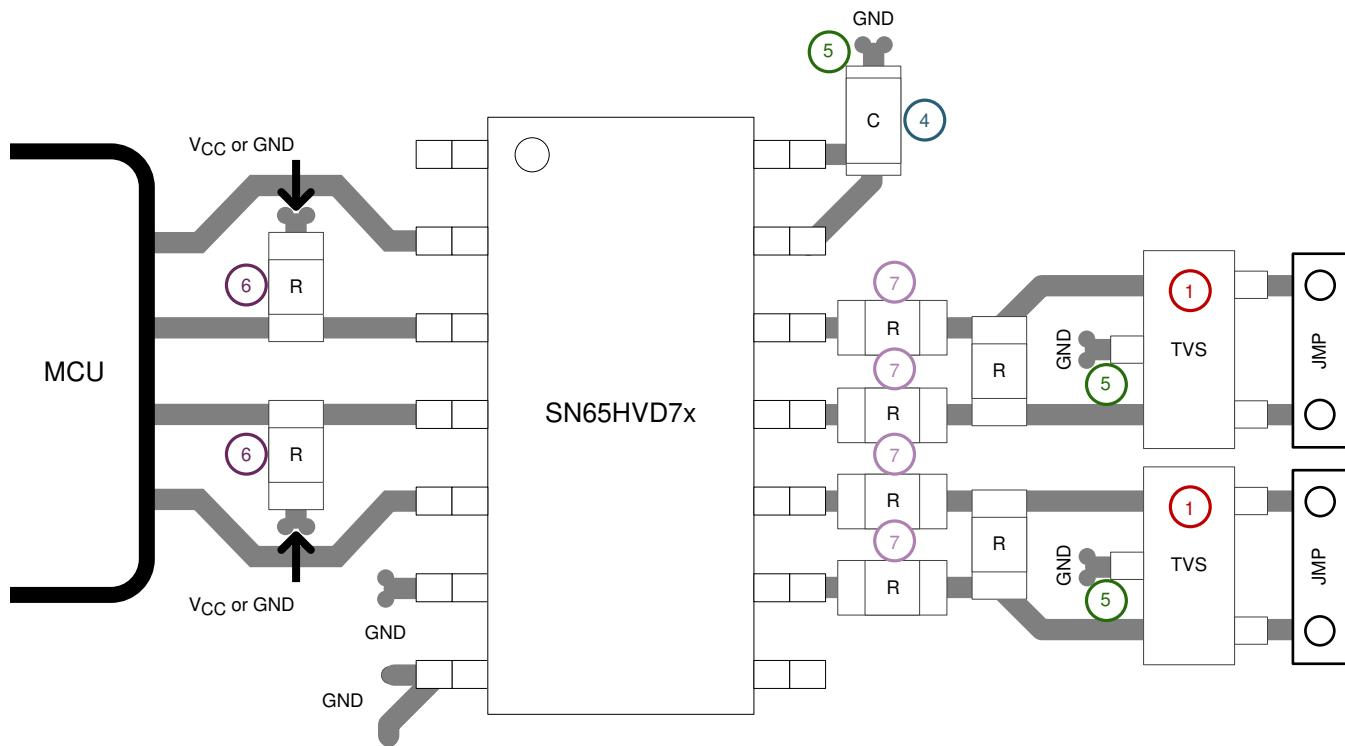

图 41. SN65HVD7x Layout Example
For successful PCB design, begin with the design of the protection circuit (see 图 41).
4. Apply 100-nF to 220-nF bypass capacitors as close as possible to the V_{CC} -pins of transceiver, UART, controller ICs on the board (see 图 41).
5. Use at least two vias for V_{CC} and ground connections of bypass capacitors and protection devices to minimize effective via-inductance (see 图 41).
6. Use 1-k Ω to 10-k Ω pullup and pulldown resistors for enable lines to limit noise currents in these lines during transient events (see 图 41).
7. Insert pulse-proof resistors into the A and B bus lines if the TVS clamping voltage is higher than the specified maximum voltage of the transceiver bus pins. These resistors limit the residual clamping current into the transceiver and prevent it from latching up (see 图 41).